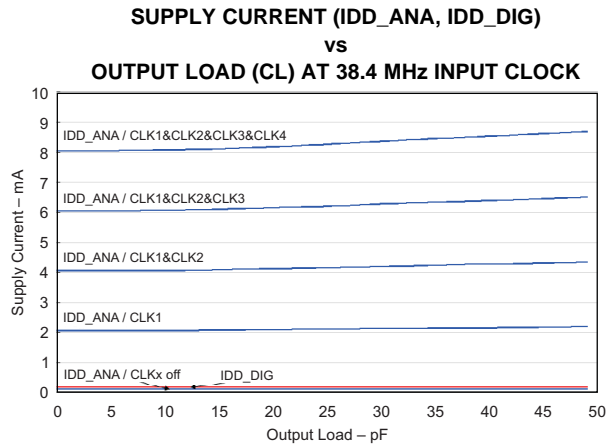

Figure 8.
(1) The total current consumption when no output is active is calculated by $I_{DD_ANA}(\text{off}) + I_{DD_DIG}$.
(2) For $C_L = 30\text{ pF}$, the typical current for one output is 2.2 mA (see Figure 8).
(3) The I²C standard specifies a maximum C_I of 10 pF.